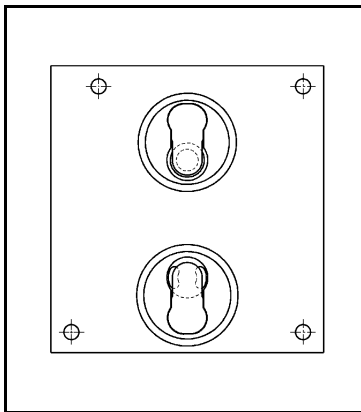

Fig. 18: Position of valve plates
2. Check valve seats and intermediate plate (5) for soiling and damage. Clean the parts if necessary.
4. Lay new valve plates (3) in the valve seats of the intermediate plate (5). See Fig. 18 for position.